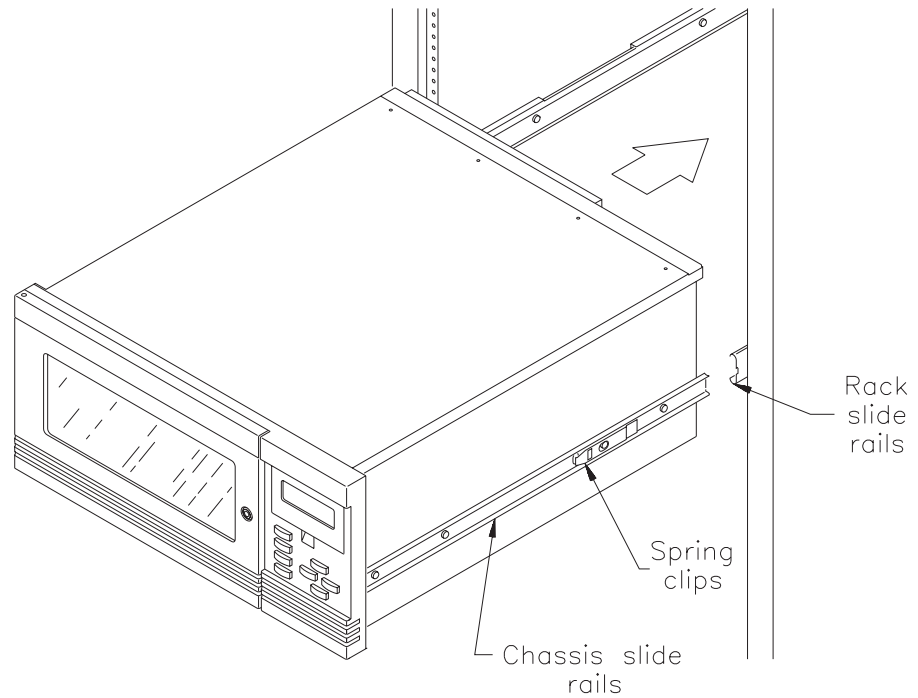

Figure 17 Installing the rack-mount library into the rack
6. Using two people to lift the library, slide it into the rack by inserting the chassis slide rails into the rack slide rails (see Figure 17). Press the spring clips while pushing the library firmly into the rack. When the library is seated properly, you will hear the latch engage.